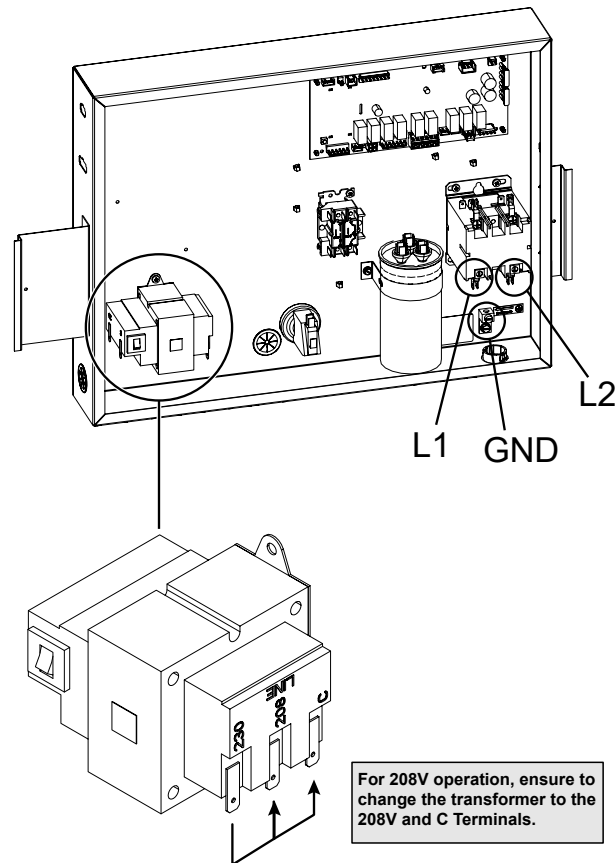

Figure 7. Terminals L1 and L2
- Connect electrical Line 1 (L1) and Line 2 (L2) to the terminals indicated in **Figure 7** for proper wiring. Electrical installation should be performed by a licensed electrician only.